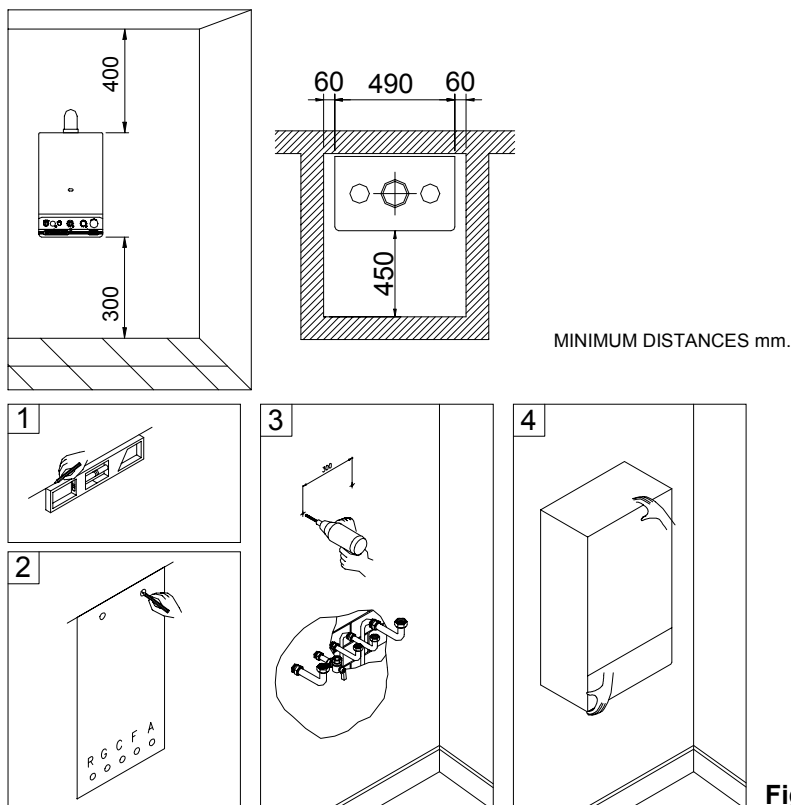

Fig. 1
To allow access in the boiler for maintenance operations, the minimum distances shown below must be respected (fig. 1):
- 1) With a spirit level, draw a line on the wall on which the boiler will be installed (fig. 1).
- 2) Position the top of the template on the line drawn with the spirit level (respecting the distances – see fig. 1) than mark the three points for insertion of the 3 screw anchors or wall anchors for fixing the boiler hanging bracket. (choose proper anchors according to the wall type). Next, mark the two points for insertion of the two screw anchors for fixing the JIG to wall.